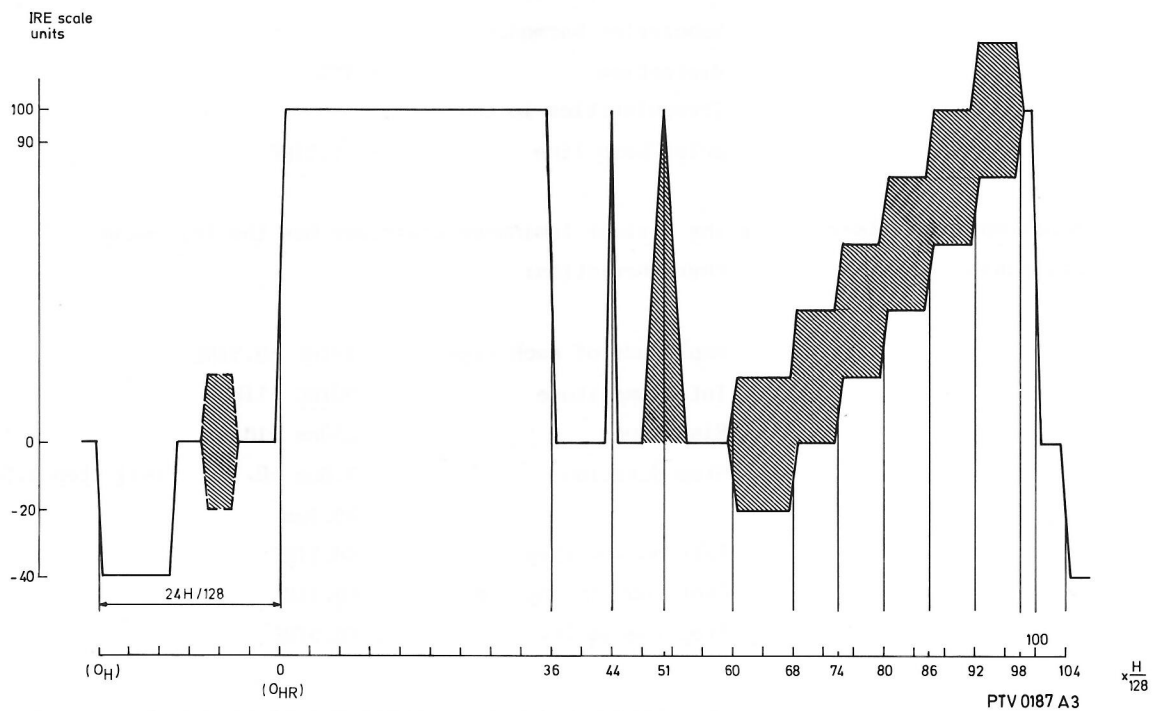

Fig. 3-6 NTC-7 composite
1. (A) NTC-7 composite test signal (See also fig. 3-6)